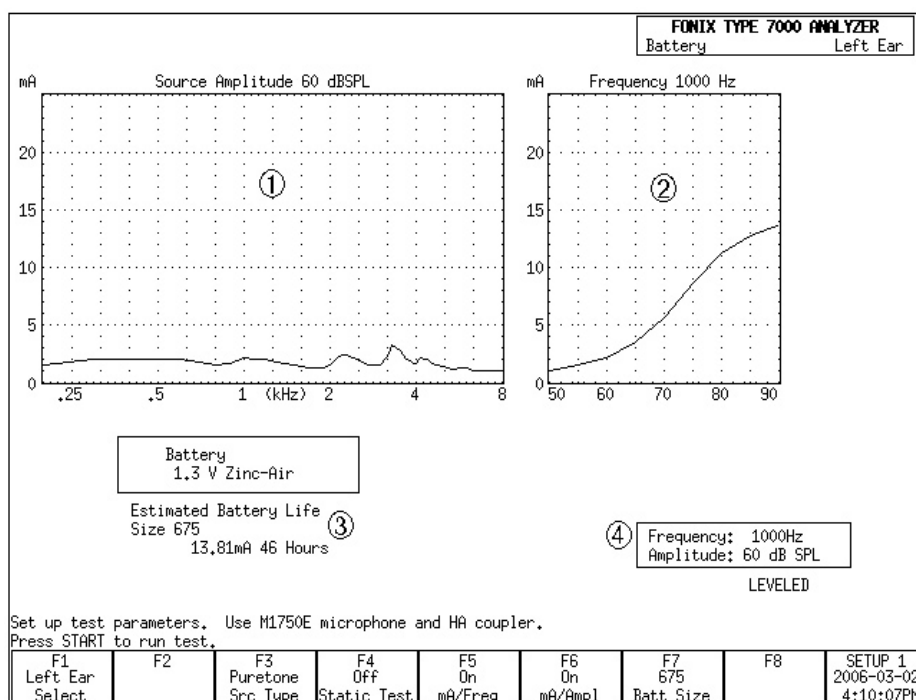

Figure 4.2—Battery Current Test
3. Use [F4] to toggle the Static Tone to On. The estimated battery life should now be displayed below the mA/Freq graph. See Figure 4.2.